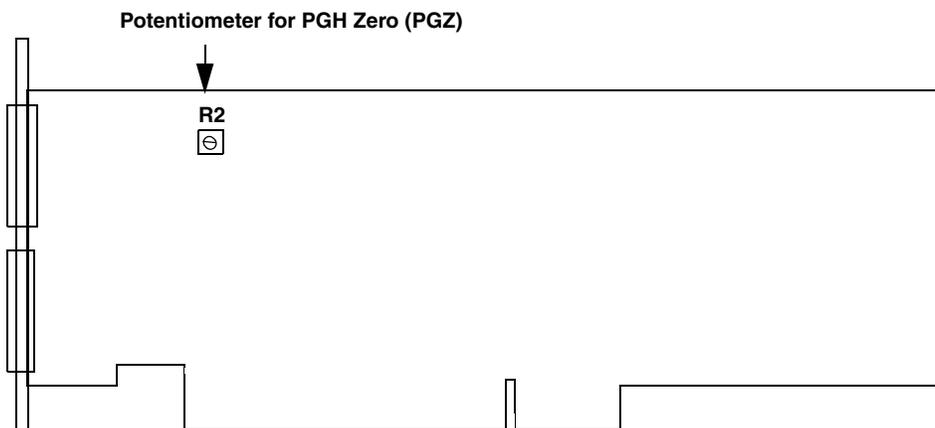

Figure 40: Location of Potentiometer R2 on the DT3034 Board
2. Physically adjust potentiometer R2 (labelled PGZ) on the DT3034 board until the display reads 0.0000 V (0.001 V). Figure 40 shows the location of this potentiometer.